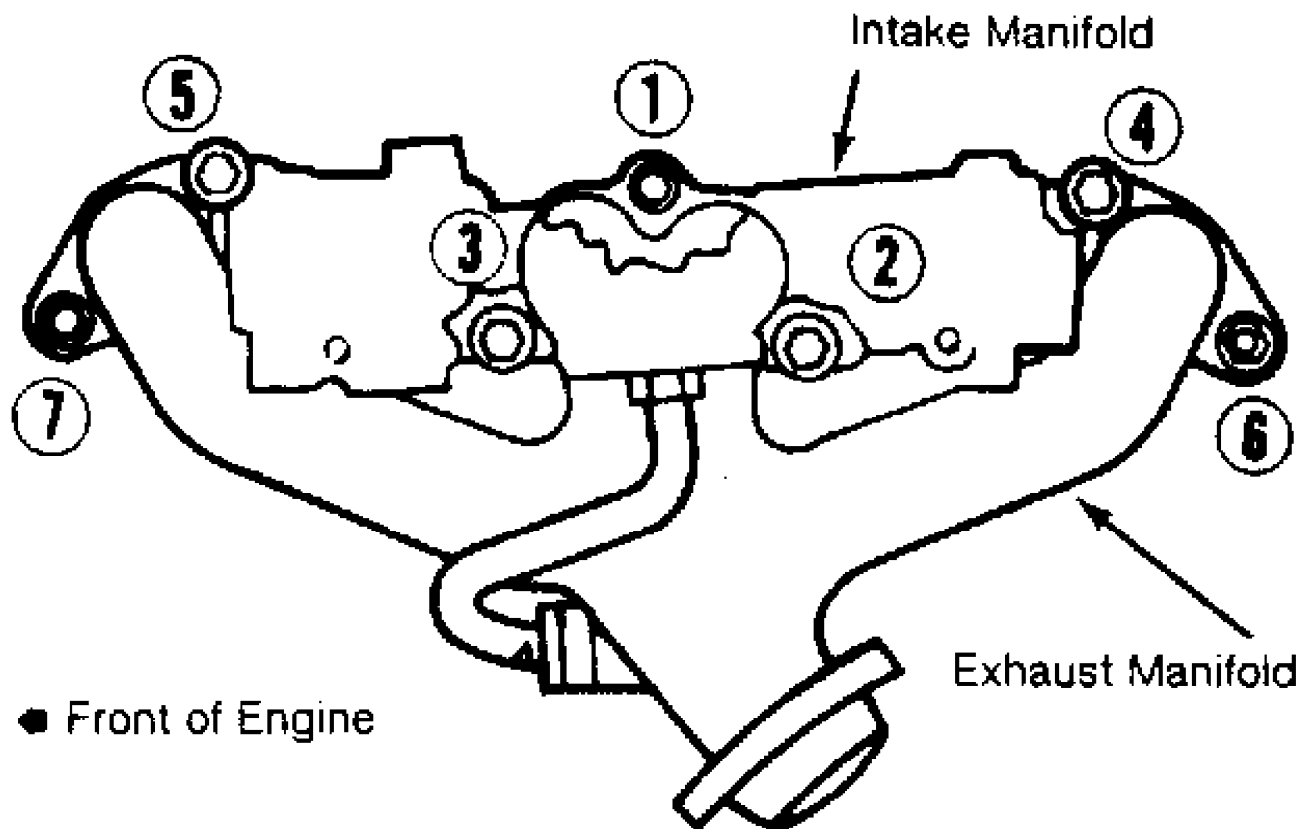

Fig. 1: Manifold Bolt Tightening Sequence
1) Ensure all gasket surfaces are clean. Install manifolds and gasket on cylinder head. Start all bolts and finger tighten. Tighten bolts in proper sequence. See Fig. 1. Tighten bolts to specification. See TORQUE SPECIFICATIONS table.